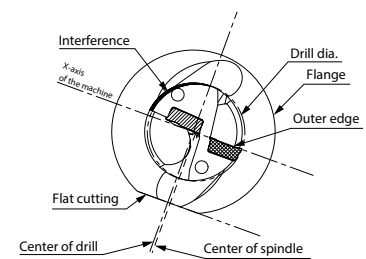

Fig. 4 Excessive offset (For smaller hole diameter)
1. Align the drill with the outer insert face parallel to the x-axis of the tool turret. (Fig. 4)
However, be sure not to make the hole diameter smaller than the drill diameter by 0.2mm or more. Otherwise, the toolholder will interfere with the drilled hole. (Fig. 4)